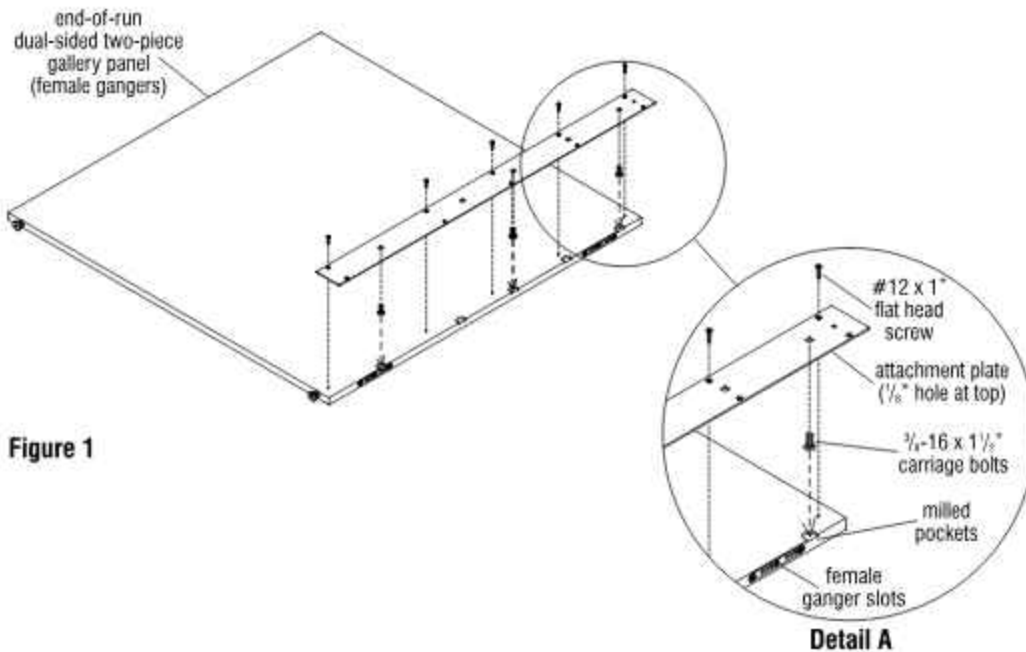

Figure 1
1. Set the panel with male ganger hooks to the side. Lay the gallery panel with female gangers onto a soft protective surface on the floor so that the face with mounting holes faces up. Place three  $\frac{3}{8}$ -16 x  $1\frac{1}{2}$ " carriage bolts loosely into the round, milled pockets with the bolt head resting in the pocket, and the shank pointing upward. Place one bolt in the top hole, one in the lowest hole and the third in any hole near the middle of the panel. Not all holes will receive bolts and only half of a pocket will be milled (Figure 1 & Detail A).
2. Locate the top of the 11-gauge attachment plate. The top has a  $\frac{1}{8}$ " hole at the center of the plate to identify the top. Align the top edge of the attachment plate with the top of the gallery panel (opposite the bottom glides). Lay the plate down and allow the three carriage bolts to protrude through three square holes in the plate (Figure 1 & Detail A). **Note:** The plate will be half exposed so that the gallery panel with the male gangers can be installed at a later time.
3. Install #12 x 1" flat head screws into each counter-sunk hole as illustrated. Each hole should contain a pre-drilled  $\frac{1}{8}$ " diameter pilot hole in the panel. Snug each screw tight (Figure 1 & Detail A).